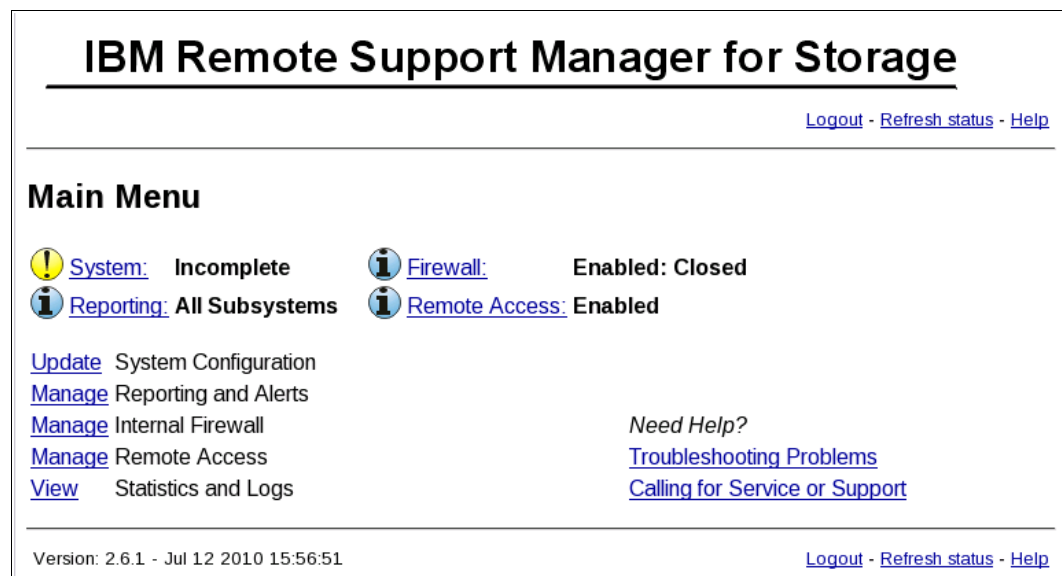

Figure 16-7 RSM administration window
- c. Click the Manage icon to open a web browser that shows the main administration window as shown in Figure 16-7. Click **Login**.